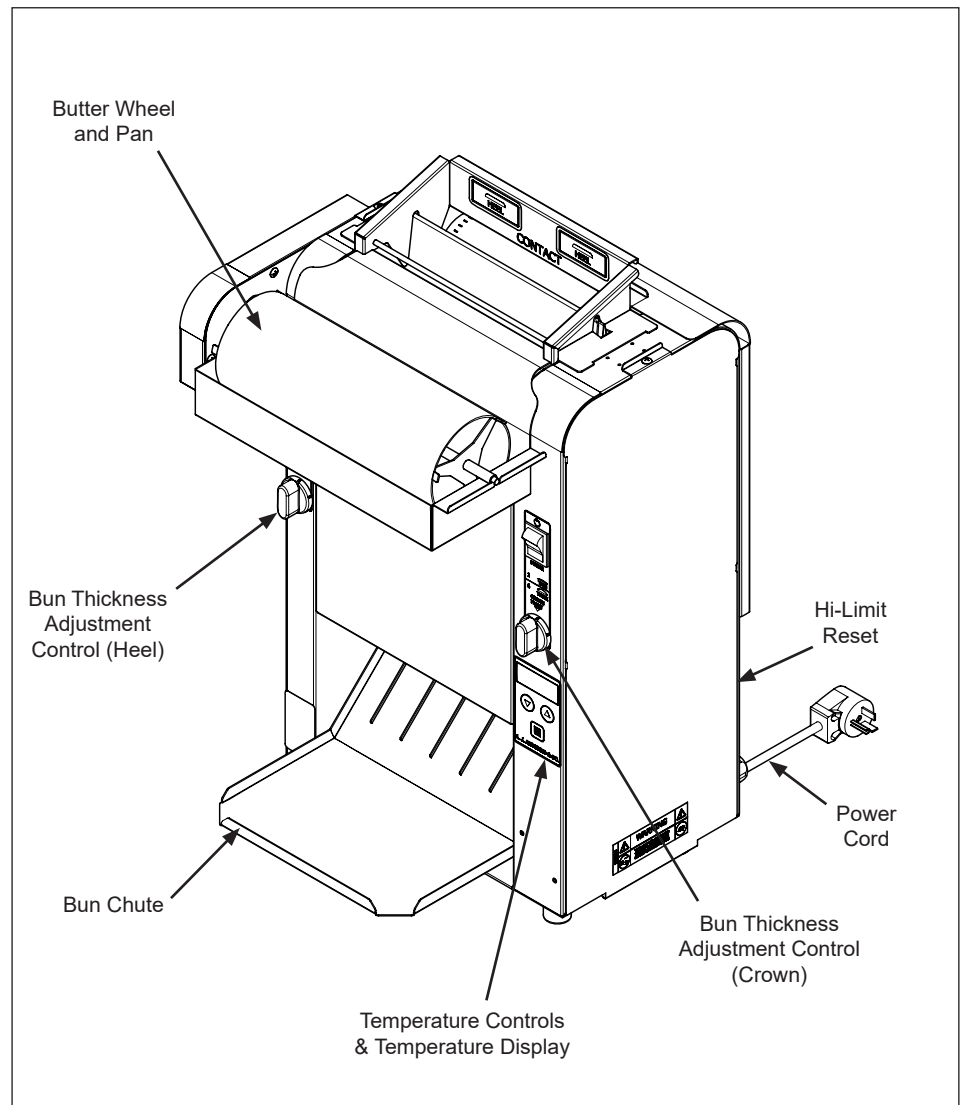

Figure 3. VCTM-2 Toaster
1. Set the Bun Thickness Adjustment Controls (Figure 3).
NOTE: The display (Figure 3) flashes "LO" during warm-up. "USE" appears when the toaster is ready for use.
6. Toasted buns drop onto the Bun Chute (Figure 3).
Refer to the table below Figure 3 for recommended settings.
A Hi-Limit Control turns off power to the unit if it overheats. To reset the control, allow the unit to cool, then locate the Reset Button at the rear of the unit. Remove the black protective cap, press the Reset Button, and reinstall the protective cap (Figure 3).